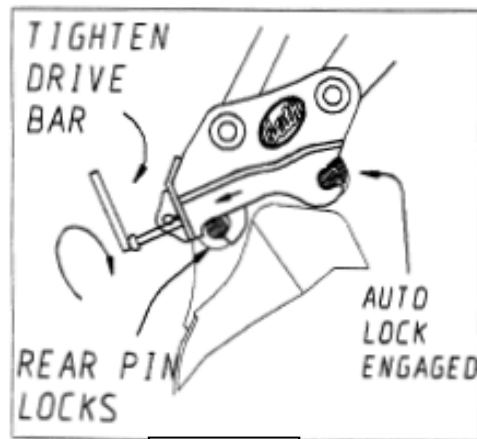

Fig. 19
3. Continue to tighten the drive bar until no further tightening is possible. See fig. 19. **Warning:** Do not extend drive bar (by use of extension tube etc) when tightening as over-tightening may result in difficulty releasing the attachment, or damage to the mechanism.